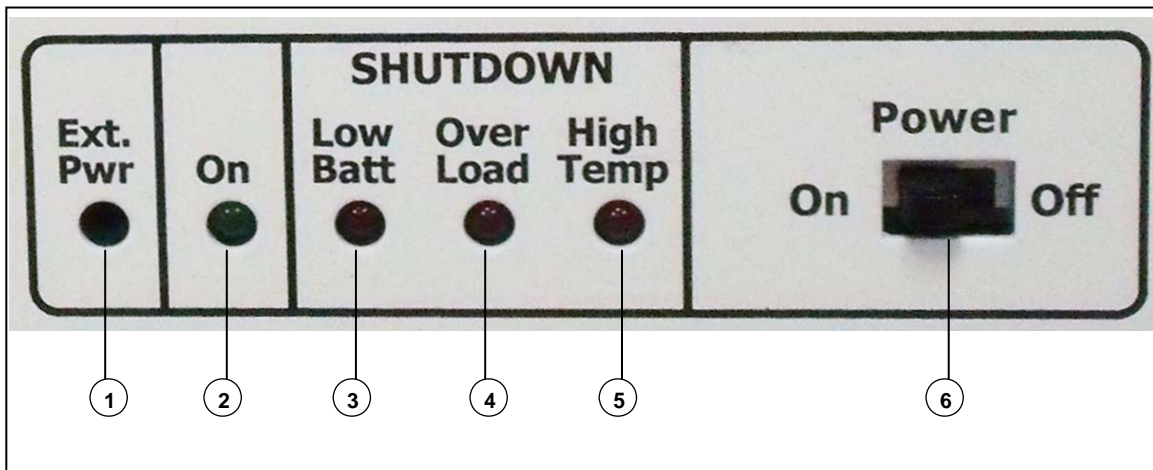

FIGURE 2: Control Panel Description
- (1) **GFCI Outlets:** 120VAC Output.
- (2) **LED Status Control Panel:** Provides inverter status (See figure 2 on page 7)
- (3) **Output Breaker:** Trips to protect the inverter's internal circuitry from shorted AC loads or overload situations.
- (4) **Cooling Fan:** Thermally-controlled fan triggers only when necessary to cool down inside electronics.
- (5) **DC Field Wiring Compartment:** Provides access to the Positive (+) & Negative (-) DC input lugs.
- (6) **DC input Openings Positive (+) & Negative (-):** Allows the DC input cables to reach the DC lugs inside the field wiring compartment.
- (7) **Bonding Lug:** Connects to the ground system.
- (8) **Remote ON/OFF:** Wire through a remote On/Off switch, fuse, and then to the positive side of the battery. Allows for remote control of the inverter.